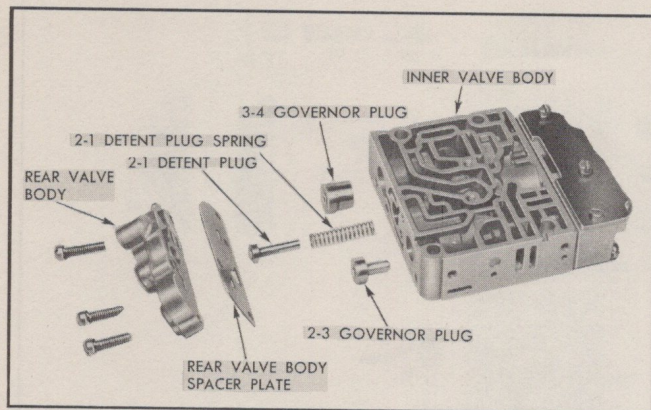

Fig. 14 Governor Plugs, 1-2 Detent Plug and Spring
7. Remove 3-4 governor plug, 2-1 detent plug, 2-1 detent plug spring, and 2-3 governor plug (Fig. 14).
8. Remove three (3) screws holding front valve body plate to front valve body and remove plate and "T" oil ball check valve and spring. ("T" oil ball check and spring were not used in early production.)